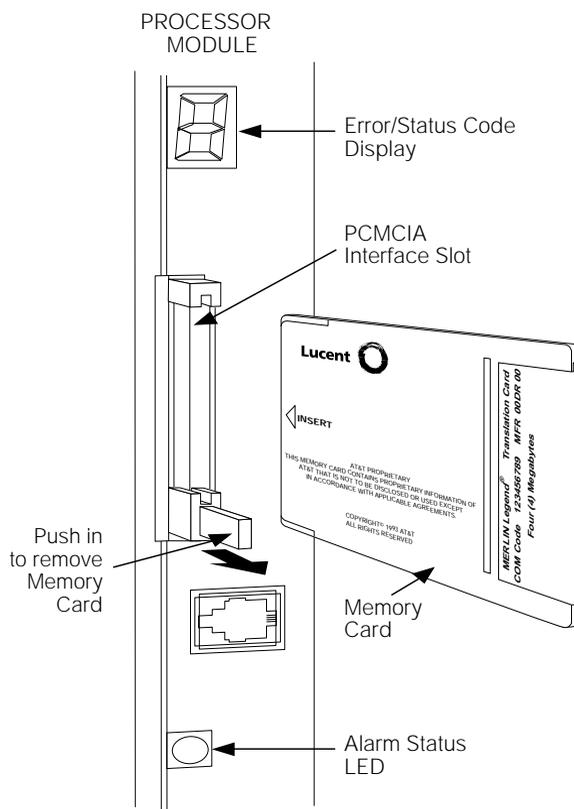

Figure 4-7. Inserting the Upgrade Memory Card
- ▶ **1. Insert an upgrade memory card containing the circuit module firmware into the PCMCIA interface slot on the processor board.** See Figure 4-7.